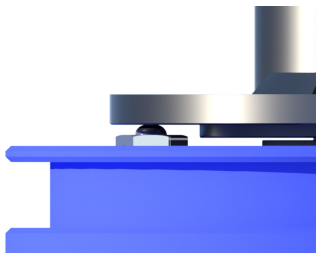

FIGURE 49
3.0.9) Place the end of the insertion tool over the valve stem. Tighten the Insta-Valve 250 valve cartridge and insertion tool together by turning the knurled handle of the insertion tool clockwise until snug. Tighten the 3/4" insertion tool lock nut at the knurled handle's base. The raised face at the end of the insertion tool must sit flush against the valve cartridge (see Figures 49 and 50).